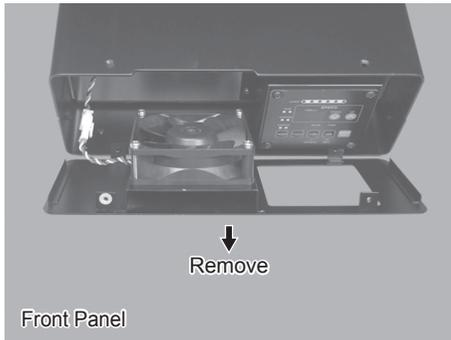

Fig. 42
- (4) Remove the Case (Front Panel) from the CONTROLLER (Fig. 42).